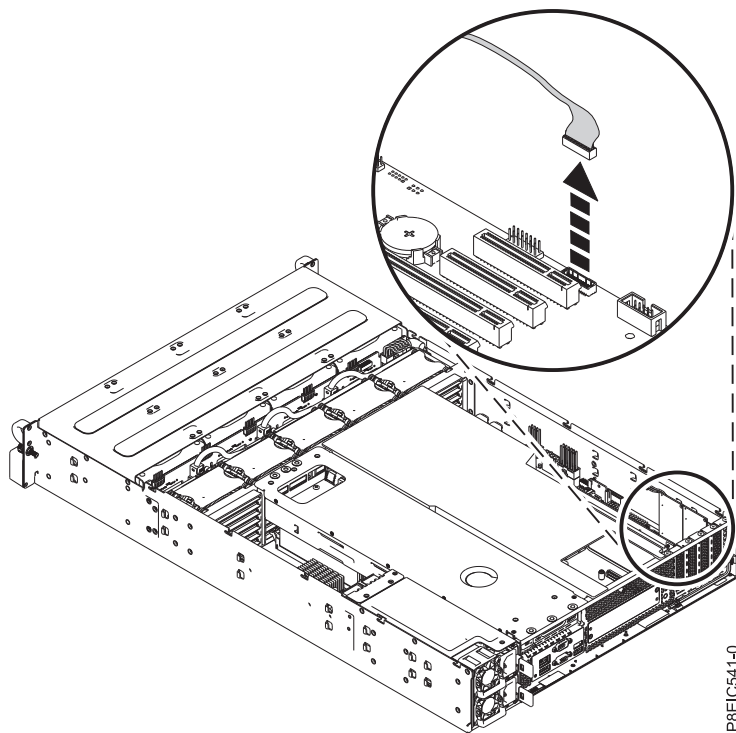

Figure 107. Disconnecting the front USB cable
2. Remove the front USB signal cable from the system backplane, as shown in Figure 107.